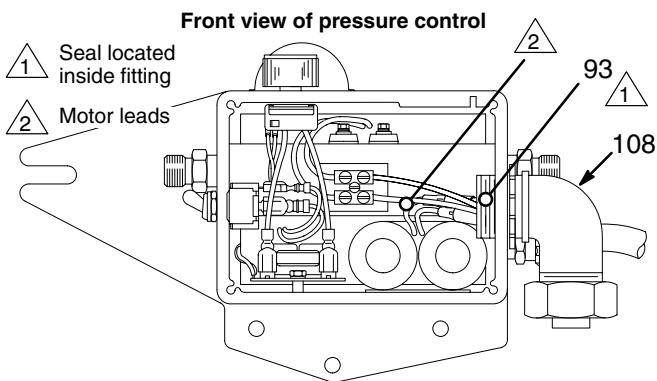

Fig. 22
2. Disconnect the main hose (47).
3. Disconnect the drain tube (101) from the pump (39) and suction tube.
4. Loosen the filter bracket nut (28). Remove the filter.
5. Remove the pressure control cover (36). Disconnect the four motor leads. See Fig. 22.
6. Unscrew the connector from the pressure control. Loosen the nut on the connector (108) and pull the conduit (22) and motor leads out of the pressure control.
7. Remove the pressure control mounting screws (37). Remove the pressure control. Install the connector (108) on the new pressure control.
8. Install the new pressure control. Place the seals (93) around the motor leads and push the seals into the connector (108). Be sure to install the gas-kets (108). See Fig. 22.
**NOTE:** A replacement circuit breaker (109) is available.